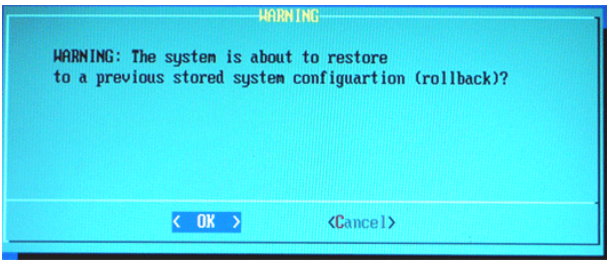

Figure 5-30 Warning message
- 2. As soon as the “Boot Screen” appears (see: Figure 5-30 on page 5-53), press the **[PgDn]** (Arrow down) key on the keyboard until the **Rollback** item is highlighted, then press **Enter**.
2. As soon as the “Boot Screen” appears (see: *Figure 5-30 on page 5-53*), press the [PgDn] (Arrow down) key on the keyboard until the **Memtest** item is highlighted, then press **Enter**.